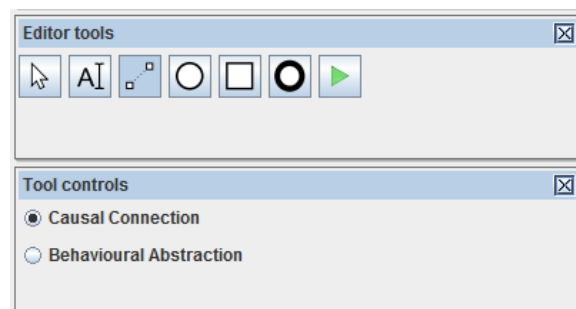

Figure 3. The Connect Tool and its Tool Controls.
- **Select** button (S) – identify the graphical node that is to be moved, connected, etc.
- **Text Note** button (N) AI – place a rectangle ready to contain text wherever appropriate in the Editor window. The default background colour of such a note is yellow. The text in the note turns blue when the note is selected. Double clicking on the note opens it up so that the text can be edited. The user can introduce a new text line when Return is pressed, and can close the note by clicking anywhere outside it. (It is also possible to enter text directly into the label field in the Property editor after a text box has been merely selected, rather than opened. Indeed one can enter the same text into a set of text boxes by selecting them all and typing the required text into the label field in the Property editor.)
- **Connect** button (C) – create SON-based connections between nodes; the choice of connectors available while in this mode – at present just *Causal connection*, or *Behavioural abstraction* (see Figure 3) – is displayed in the Tool control panel.
- **Condition** button (B) ○ – create a condition in a SON model.
- **Event** button (E) □ – create an event in a SON model.
In the case of ordinary Occurrence Nets, such a connection must be a *Causal Connection*, and be from a condition to an event, or vice versa – any attempt at linking two conditions, say, will provoke an error message. (When the user has chosen an editor tool, the chosen tool is highlighted, and the tool controls window shows, and is used to control, the operation of the tool, e.g. for the Connect Tool the type of connection, at present either a *Causal Connection* or a *Behavioural Abstraction*, can be chosen – as was shown in Figure 3.)